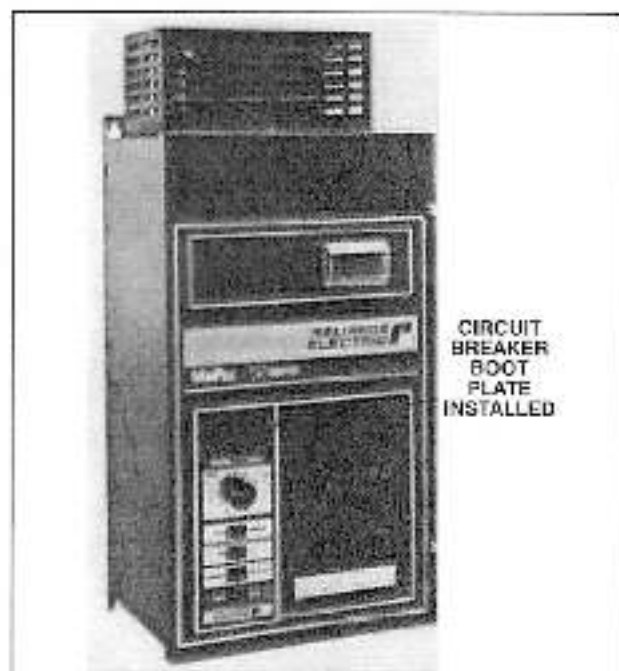

Figure 5 – Three Phase MinPak Plus Operators Control Station Installed
5. Turn plastic plate over. Push out circuit breaker boot in so that it is totally collapsed and place plastic plate over hole in operators plate. Hold down or put weight on top of plastic cover. Hold this way for three (3) minutes. This allows set time for glue. A total of twelve (12) hours will completely dry the part to the operators panel. (Refer to Figure 5).